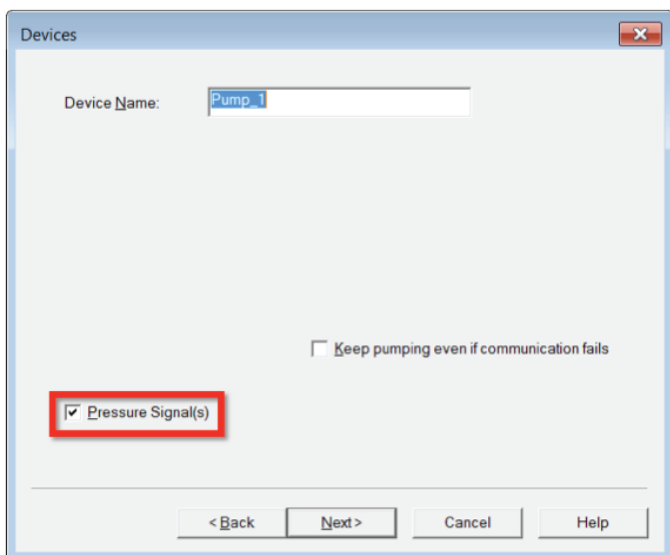

Figure 5. Adding the Integrion HPIC Pump Wellness Module to the instrument configuration.
3. Select the Devices Tab and click on the Pressure Signal(s) box (Figure 5).